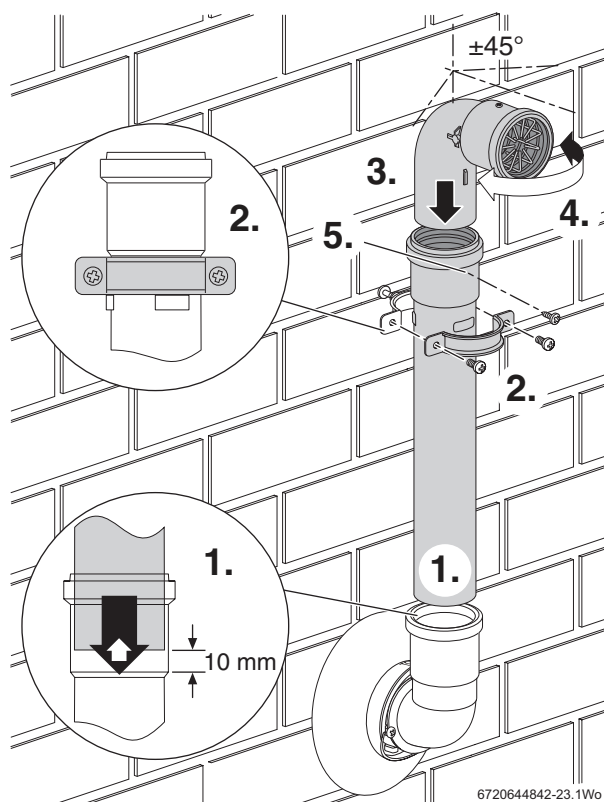

Fig. 37 Plume management installation
3. Mark the position for the wall clamp so that it coincides with the extension tube just below the top fitting (Refer to figure 37 point 2).
Refer to figure 37 plume management installation.